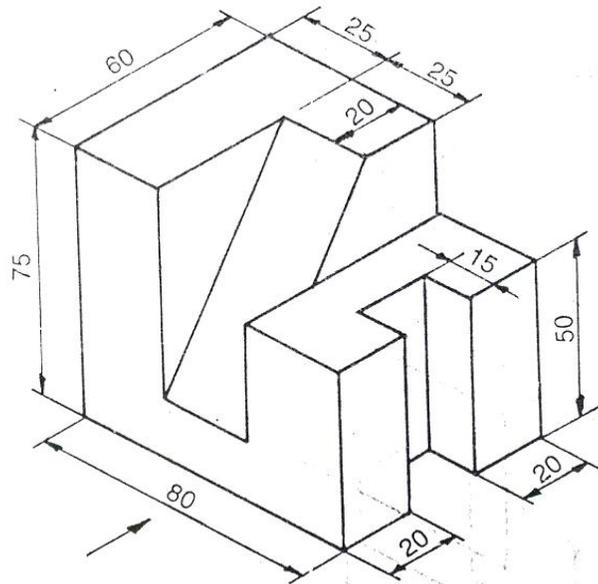

Fig.2
Q.7 Draw the following views to scale 1:1 of the object shown the Fig.2.